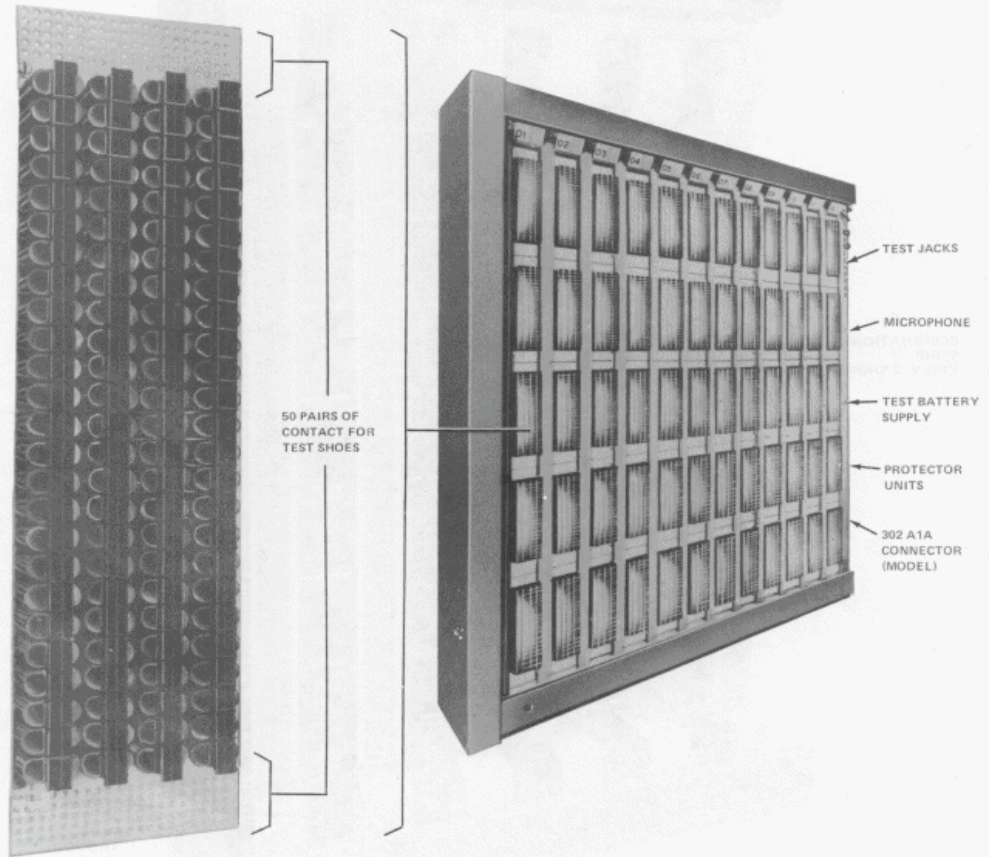

Fig. 2—Protector Frame, Front View
3.01 All outside cables from customer and other central offices are terminated at the protectors on the protector frame (Fig. 2) to prevent damage to office equipment from lightning strokes and power crosses on selected special circuits. Cables from the protectors are connected to alternate columns of terminal blocks at the main distributing frame and are distributed vertically. Protector cables are interconnected with cables from line link networks (LLNs) and intermediate distributing frames which are connected to the remaining columns (distributed vertically in the column).
3.02 Each protector frame (Fig. 2) provides 60 protector connectors each having 100 protector plug-in units. Carbon blocks within the protector units will ground the associated lines on lightning strokes and power crosses above 400 volts. The No. 1 ESS circuits are designed to be self protecting below 400 volts thus making heat coils unnecessary. For testing purposes, inside and outside cable pairs can be disconnected by removing the corresponding protector units.